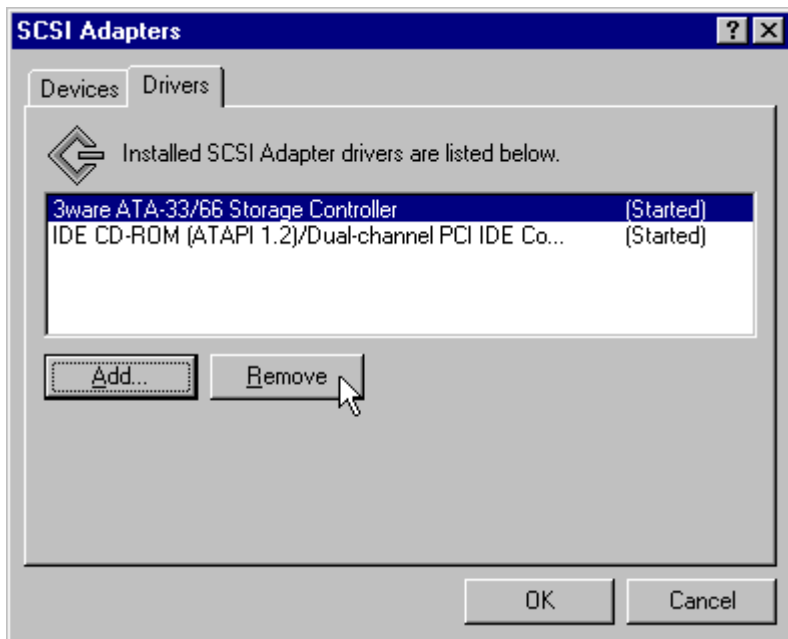
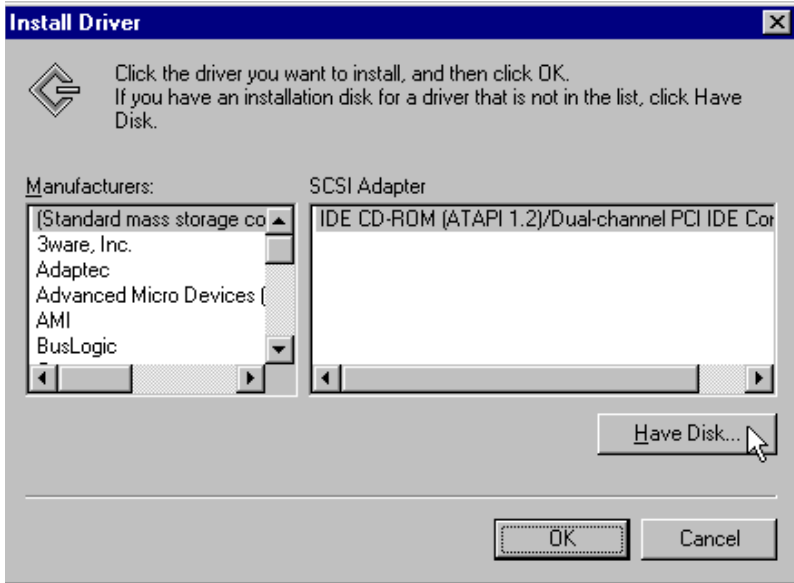

Figure 21. Remove Current Driver
Figure 22. Install Driver
- 5 Click on the **Remove** button to remove the current driver. (See Figure 21.)
- 1 Click on the **Add...** button. (See Figure 21.) The **Install Driver** dialog appears. (See Figure 22.)